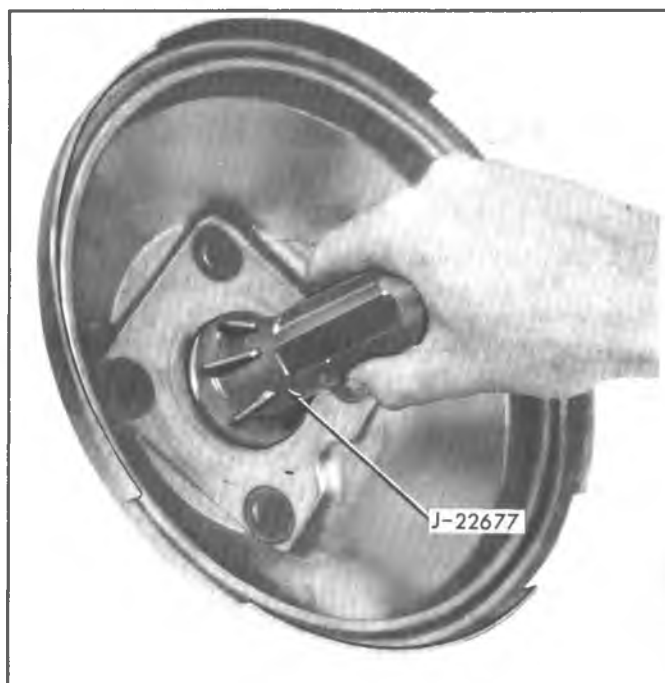

Fig. 5-4D--Installing Rear Housing Seal
1. Place rear housing on a block of wood, stud side down, and position housing seal in center hole. Use Tool J-22677 (fig. 5-4D) to seat seal in recess of rear